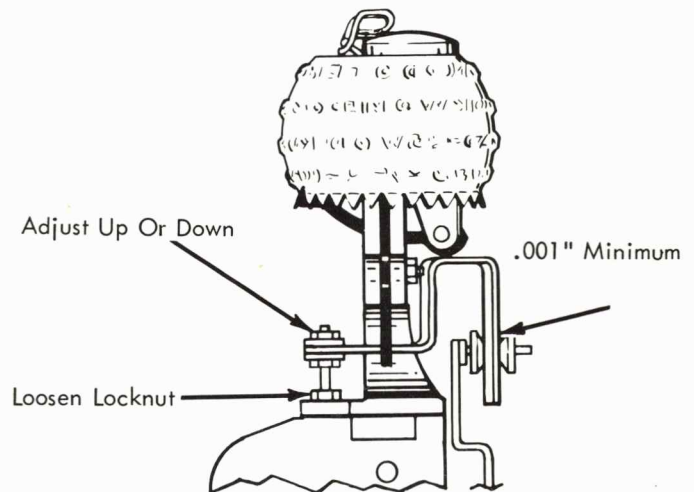

FIGURE 59. Detent Lever Support
- b. With the detent cam follower on the low dwell of the cam (detents fully seated), loosen the locknut on the detent actuating lever support and adjust the screw up or down until there is a clearance of .001" felt between the detent actuating lever and the detent cam follower roller (Fig. 59).